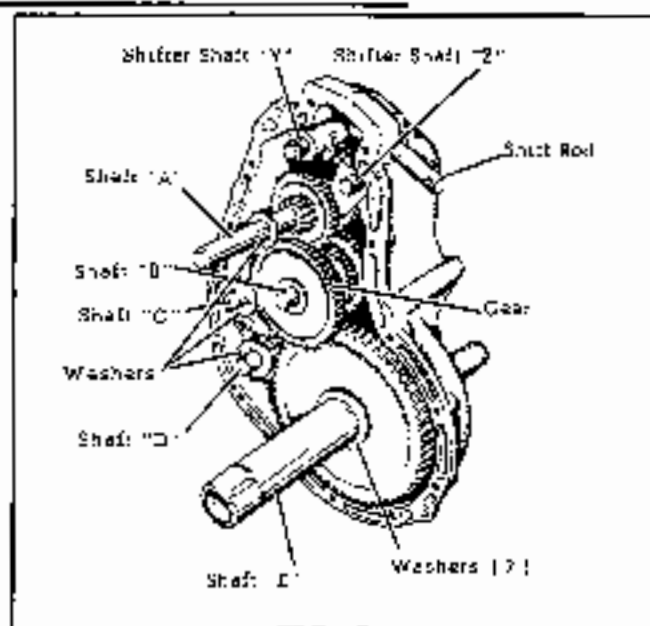

FIG. 2
3. Remove the flat washer from shaft "A", shaft "C", and shaft "D". Now remove the gear from the end of shaft "B". Remove the axle tube and gear assembly "E" from the transmission case. See Fig. 2.